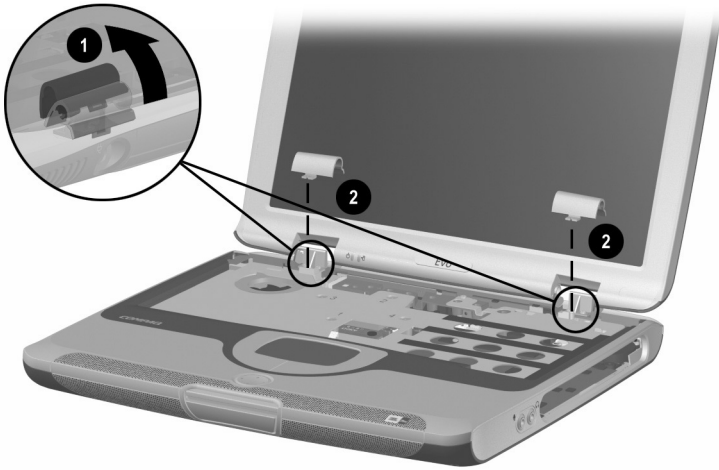

Figure 5-20. Removing the Hinge Covers
7. Press forward on the back of the hinge cover ❶ (Figure 5-20).
8. Remove the hinge cover ❷.